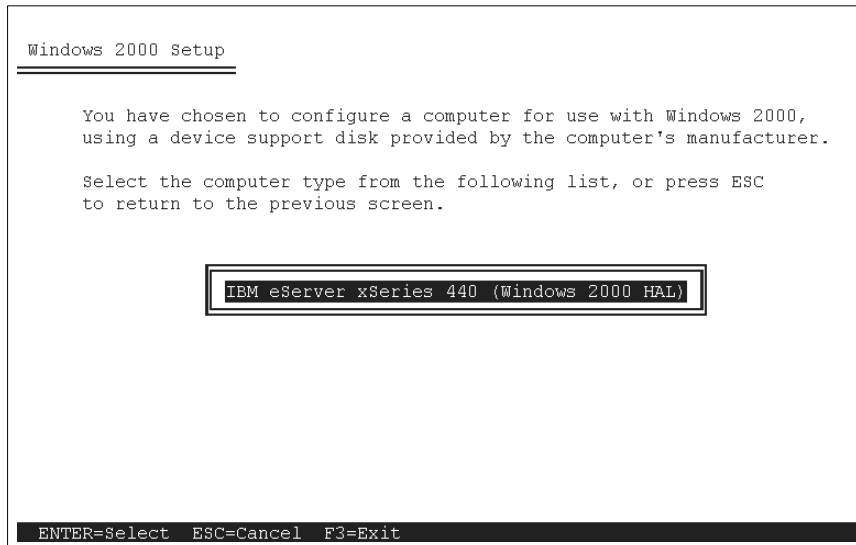

Figure 4-4 Selecting computer type from custom HAL disk
6. Select **eServer xSeries 440 (Windows 2000 HAL)**, as shown in Figure 4-4 on page 114 and press Enter. The necessary files will be copied from the diskette.